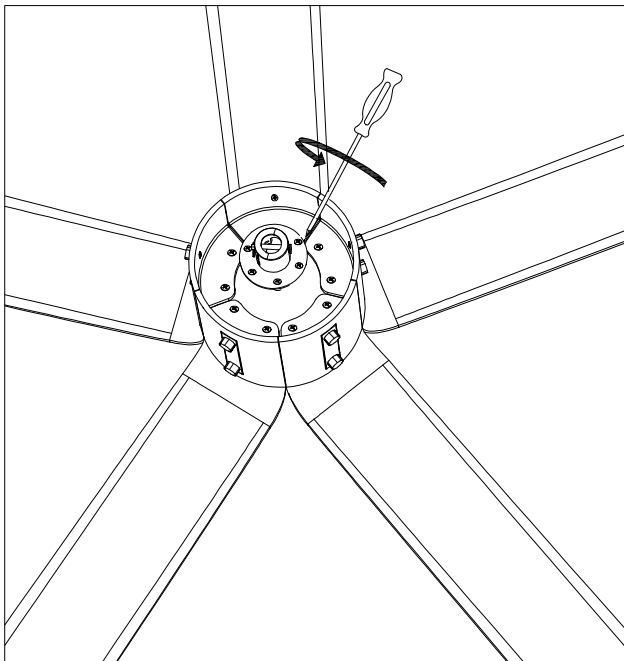

Figure 2.1
- Unscrew the six screws on the hanging head and set aside.(Figure 2.1)